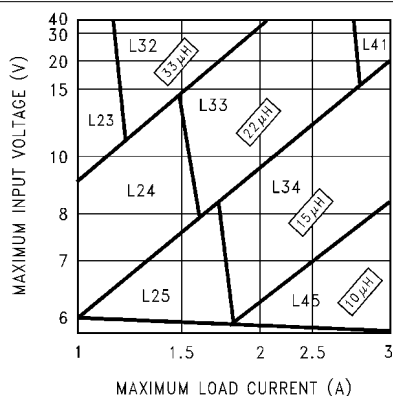
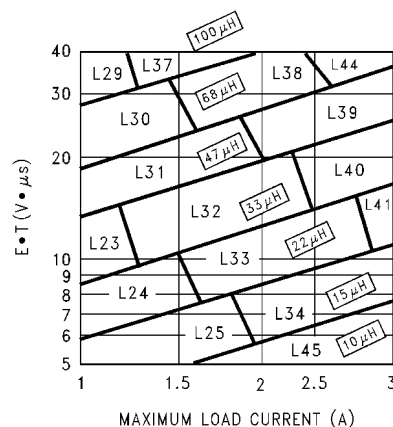

Figure 8-2. LM2676-3.3
Figure 8-5. LM2676-ADJ
Step 3: Determine the inductor required by using one of the four nomographs (Figure 8-2 through Figure 8-5). Table 8-3 provides a specific manufacturer and part number for the inductor.
Step 5: Determine an input capacitor from Table 8-7 or Table 8-8 for fixed output voltage applications. Use Table 8-1 or Table 8-2 to find the specific capacitor type. For adjustable output circuits, select a capacitor from Table 8-1 or Table 8-2 with a sufficient working voltage (WV) rating greater than V_{IN} max, and an RMS current rating greater than one-half the maximum load current (two or more capacitors in parallel can be required).
Step 3: Use the nomograph for the 3.3-V device (Figure 8-2). The intersection of the 16-V horizontal line ($V_{IN\text{ max}}$) and the 2.5-A vertical line ($I_{LOAD\text{ max}}$) indicates that L33, a 22- μH inductor, is required.